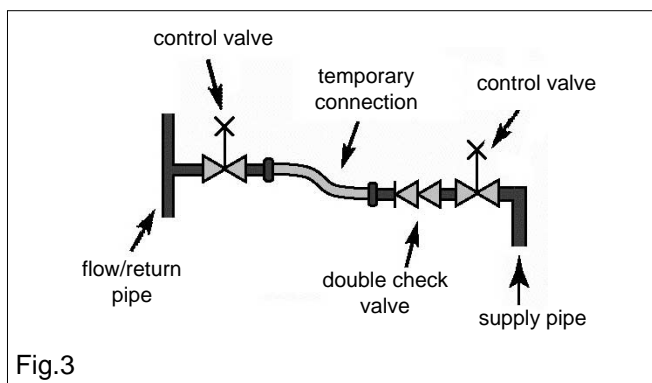

Fig.3
3.1 HOW TO TOP-UP THE SYSTEM PRESSURE (fig. 3)